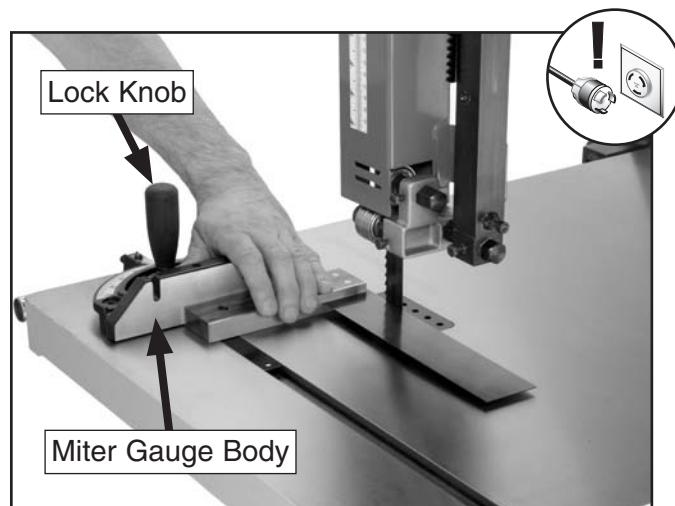

Figure 27. Aligning the miter gauge body with the blade.
- Lay the machinist's square flat on the table and up against the blade without touching any blade teeth, as shown in **Figure 27**.
- Without moving the square, bring the miter gauge body up to the square, as shown in **Figure 27**.